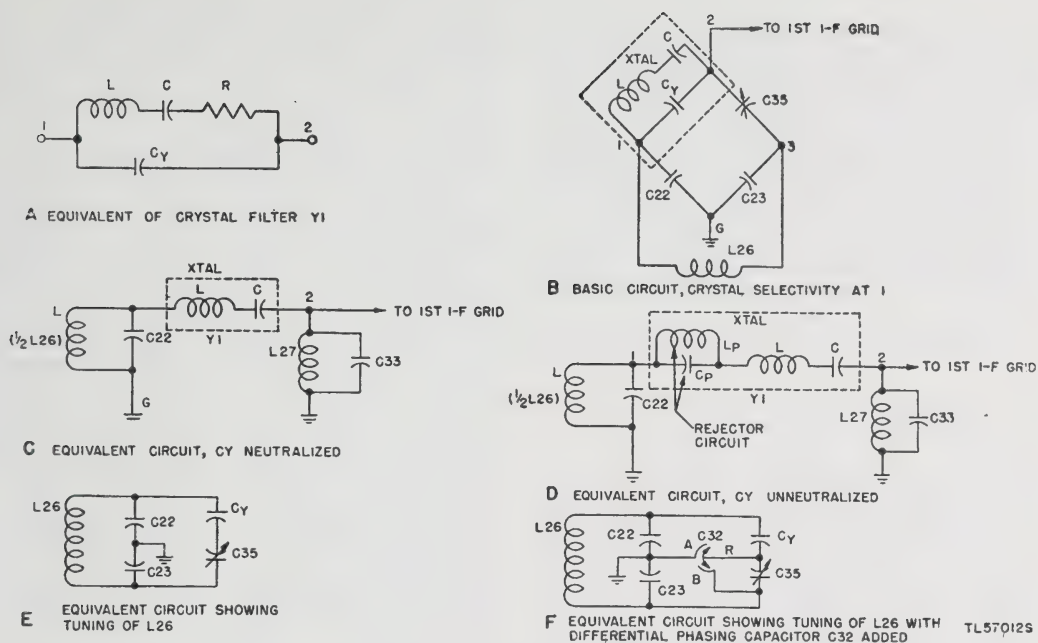

Figure 28. Radio Receiver BC-779-B, functional and equivalent diagrams of crystal filter circuit.
(4) Refer to appendix III for circuit details of Improvement Kit MC-531.
61. Crystal Filter (fig. 28)
a. **EQUIVALENT CRYSTAL CIRCUIT.** The equivalent electrical circuit of a crystal is shown in "A," figure 28. The circuit, and hence the crystal, are resonant at two frequencies: The frequency at which the reactance of L is equal to the reactance of C (series resonance), and the frequency at which the effective reactance of L-C (in series) is *inductive* and *equal* to the capacitive reactance of C_X (parallel resonance). At the series-resonant frequency the crystal acts as a low-impedance connection between 1 and 2. At the parallel-resonant frequency the crystal acts as a high impedance between 1 and 2.
b. **BASIC FILTER CIRCUIT ("B," fig. 28).** Capacitors C22 and C23 (100 mmF each) are connected in series across the secondary of i-f input transformer L26, and their junction is grounded to provide a midpoint connection in the resonant circuit L26-C22-C23. Consequently, the capacitor voltages are always of equal amplitude but 180° out of phase. Phasing capacitor C35 (1.5 to 5 mmF) is connected between 3 and 2, and the crystal is connected between 1 and 2.
c. **NEUTRALIZATION OF C_X .** Capacitors C22, C23, C35, and C_X (the capacity between the crystal holder plates) form a capacity bridge; the input is applied to 1 and 3, the output is taken from 2 and G. When capacitor C35 is adjusted so that its capacitance is equal to that of C_X , the voltage coupled from 3 through C35 to 2 is equal and opposite to the voltage coupled from 1 through C_X to 2. Under this condition C_X is neutralized and the crystal acts as a series-resonant circuit only ("C," fig. 28). Since the crystal is resonant at the intermediate frequency, there is (in effect) a direct connection between 1 and 2. As indicated in "C," figure 28, only the voltage across C22 (one-half the secondary voltage) is applied through the crystal to the grid circuit of the first i-f stage.
tance of L - C and the capacitive reactance of C_Y . For simplicity the parallel-resonant circuit is denoted as rejector circuit $L_P C_P$ in "D," figure 28. L_P and C_P denote the effective inductance and capacitance at the parallel-resonant frequency. L and C indicate the effective inductance and capacitance of the crystal at the series-resonant frequency, in this case the 465-kc i.f. In other words, unless C_Y is neutralized, the crystal acts simultaneously as a parallel- and series-resonant circuit. The parallel-resonant circuit $L_P C_P$ has no effect on the 465-kc i.f. but presents a high impedance to, and therefore rejects, the frequency to which $L_P C_P$ is resonant. L and C present extremely low impedance to the 465-kc i-f signal voltage and high impedance to voltages at different frequencies. *With underneutralization the resonant frequency of $L_P C_P$ is higher than 465 kc.*
f. CAPACITOR C32. Capacitor C_{35} , in series with capacitance C_Y , is across L_{26} and affects its tuning ("E," fig. 28). To avoid the detuning effect and to enable shifting the rejection frequency to either side of the i.f., differential PHASING capacitor C_{32} ("F," fig. 28) is used in the radio receiver. Stator sections A and B are so arranged that, as rotor R is turned out of one stator into the other, the capacitance of the first *decreases* by the same amount that the capacitance of the second *increases*. Thus, whether the rotor is entirely engaged in stator A, is at a midpoint, or is entirely in stator B, the effective capacitance across A-B, and therefore across L_{26} , remains constant. Assume that C_{32} , the PHASING capacitor, is set at the arrow position of the PHASING control on the front panel and
(2) **CRYSTAL SELECTIVITY switch at 1.** When CRYSTAL SELECTIVITY switch SW7 is placed at 1, the short is removed from the crystal. If the secondary of L26 and the parallel-resonant grid circuit, L27-C33, are tuned to 465 kc, each is the equivalent of a high resistance in *series* with the equivalent series-resonant circuit of the crystal ("C," fig. 28). Consequently, the *Q* and therefore the selectivity of the series-resonant (crystal) filter circuit is reduced, and the bandwidth is several kilocycles wider than that of the crystal *alone*.